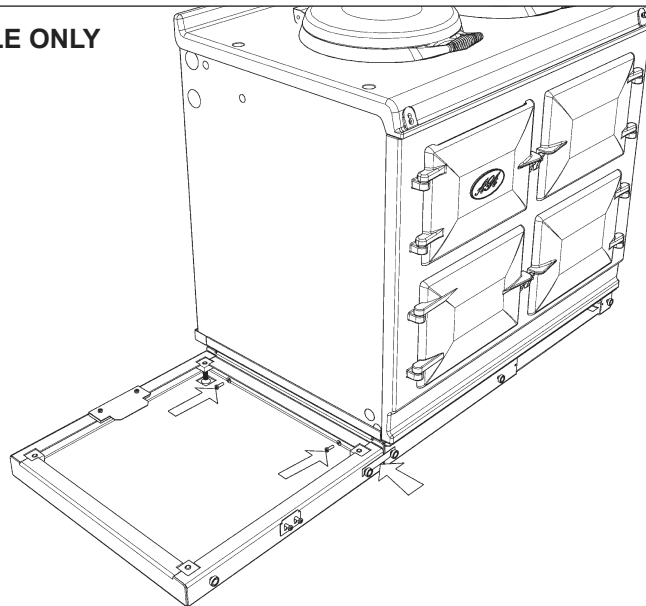
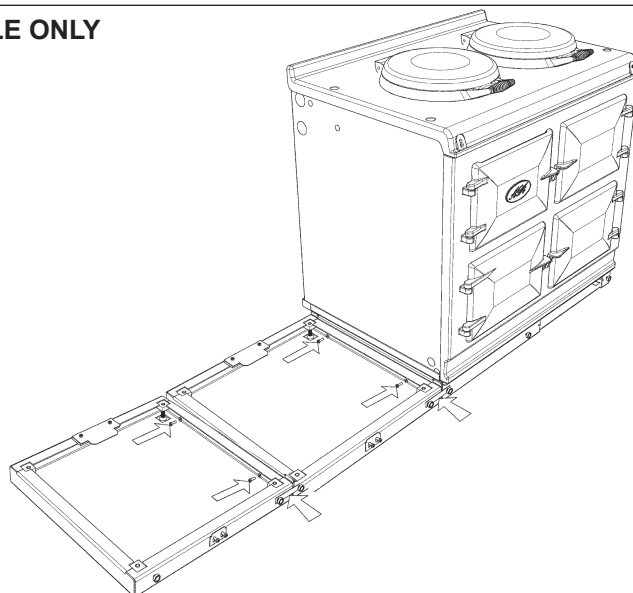

Fig. 9.5
Fig. 9.6
9. Attach Module plinth to the AGA Total/Dual Control plinth using 2x M6 screws and washers provided (See **Fig. 9.5** or **Fig. 9.6**). Slide front jointing bracket into place over two adjacent magnets, locking the two appliances together.